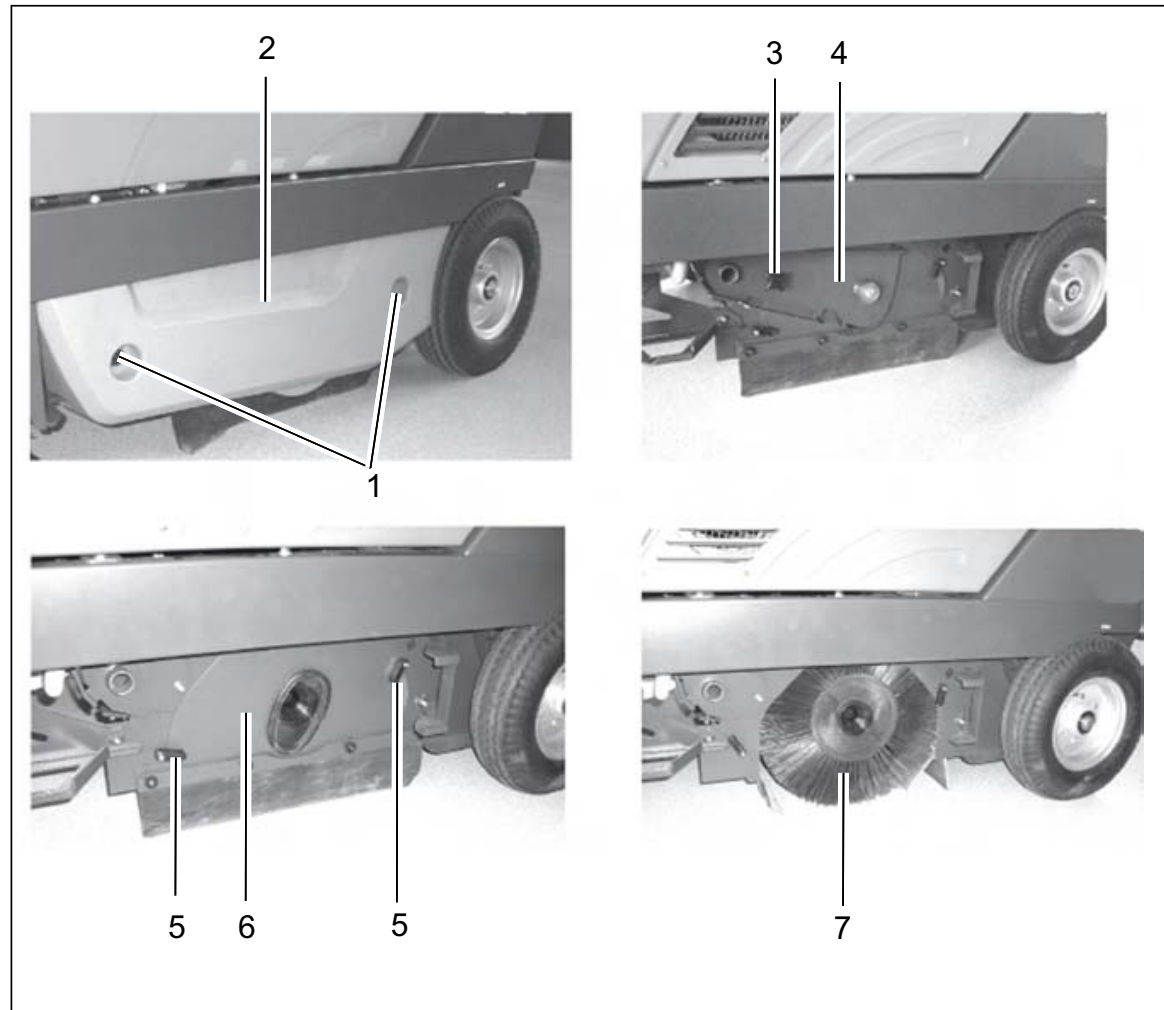

Fig.15
- Open locks (Fig. 15/1) by enclosed square spanner (turn counter-clockwise).
- Remove cover (Fig. 15/2).
- Loosen star-shaped knob (Fig. 15/3) and remove.
- Remove sweeper roller seating (Fig. 15/4).
- Turn handle (Fig. 15/5) upwards and unlock.
- Remove plate with sealing strip (Fig. 15/6).
- Remove sweeper roller (Fig. 15/7) by pulling.